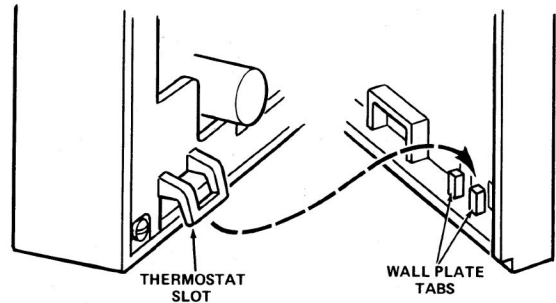

Fig. 6
STEP 8. Align slots on back of thermostat with tabs at bottom of wall plate (Fig. 6). Insert thermostat slots into tabs and rotate thermostat upward. Press firmly on upper corners and thermostat will snap into place on wall plate.